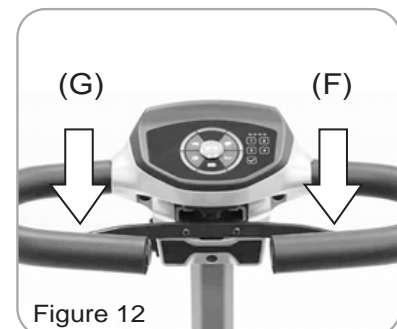

Figure 12
- Pull the right throttle lever (F) to move scooter forward. Pull the left throttle lever (G) to move scooter backward. This can be reversed if required by local dealer. (Figure 12)